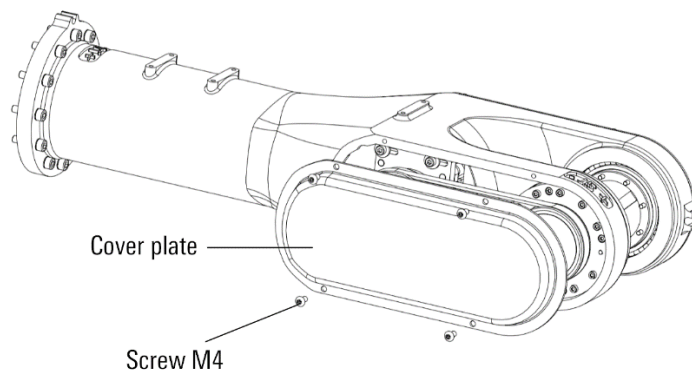

Figure 12-9 Removing the cover plate
- Step3. Remove the manipulator cover plate and four M4 screws, as shown in Figure 12-9.